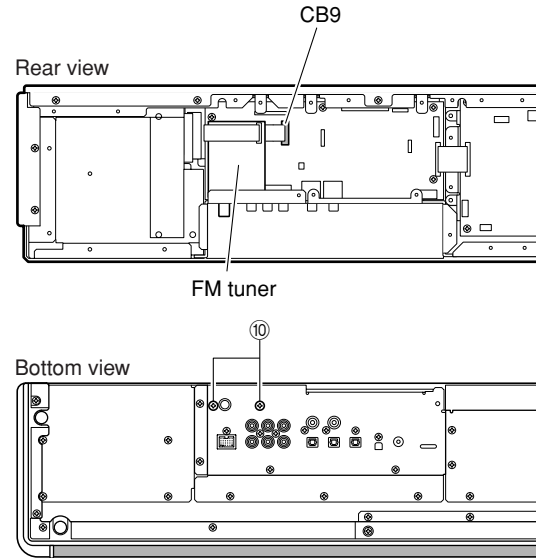

Fig. 3
- Remove 2 screws (10). (Fig. 3)
- Remove CB9. (Fig. 3)
- Remove FM tuner. (Fig. 3)